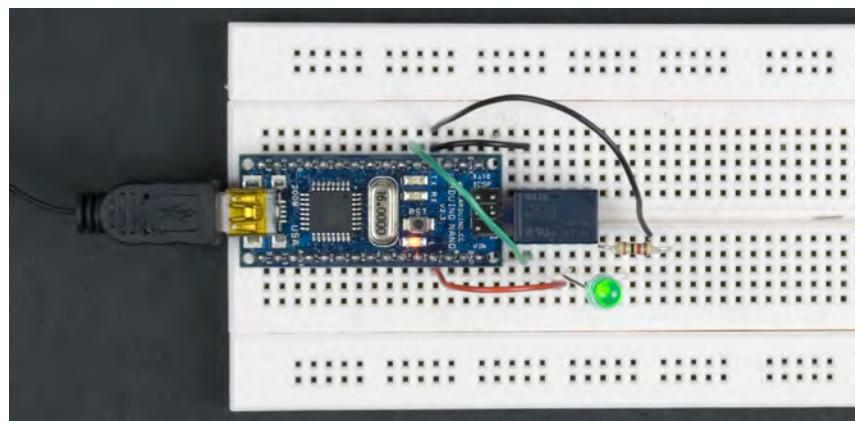
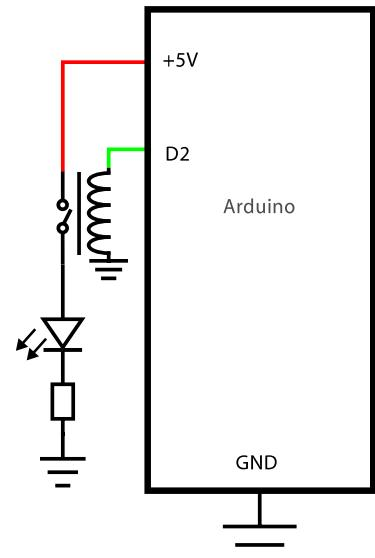

Figure 7-5. Connecting the LED with a relay
Figure 7-6. Circuit diagram with Arduino, relay, LED, and resistor
Figure 7-5 shows the Arduino Nano seated in a breadboard along with a relay and an LED. Figure 7-6 shows the circuit diagram.
- Connect the other end of the resistor to the Arduino GND pin. If necessary, use black jumper wire, as shown in Figure 7-5.